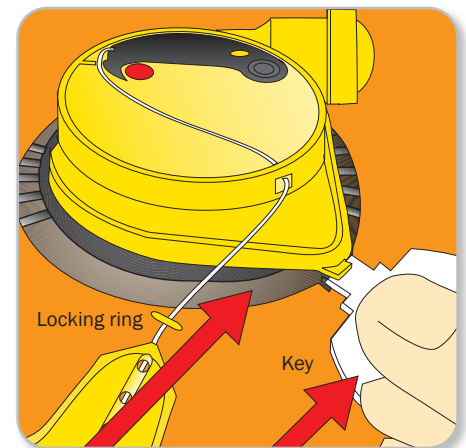

Figure 2
2. Insert metal key as shown to the right and turn the key counter-clockwise between black locking ring and labelled yellow cap. (Figure 2)